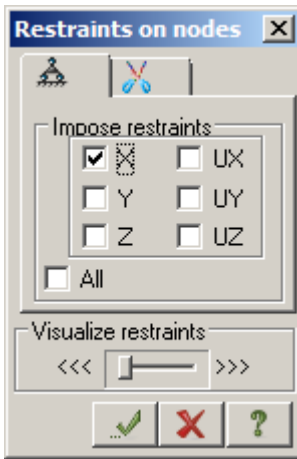

Figure 4.19 **Restraints on nodes** dialog box
- ⇒ In the **Restraints on nodes** dialog box (see Fig.4.19), specify directions along which displacements of nodes are not allowed (X). To do this, select appropriate check boxes.